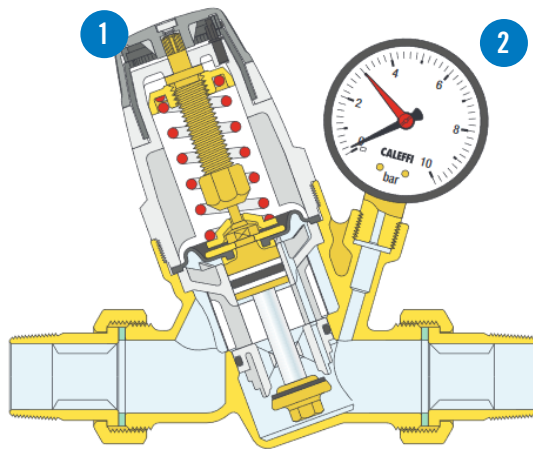

Figure 19. Make-up Pressure Balancing Valve
- Change the pressure by rotating the knob. See callout 1 in Figure 19.